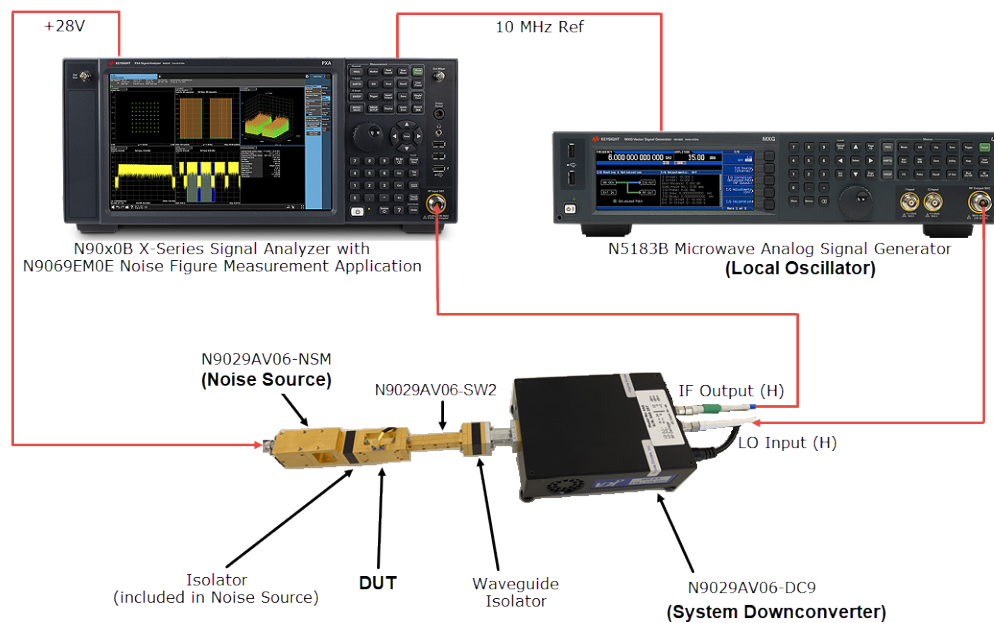
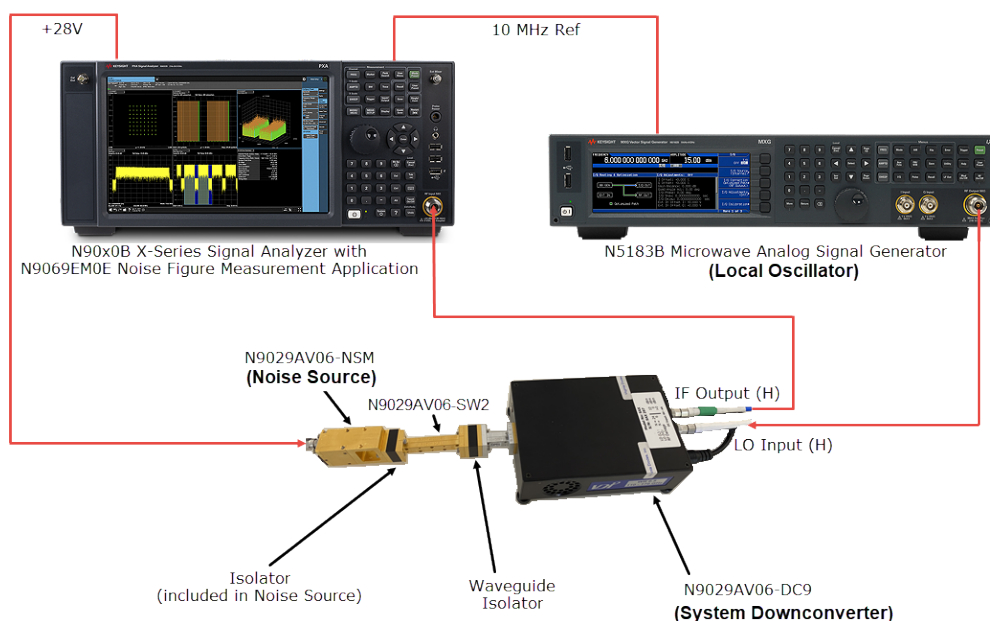
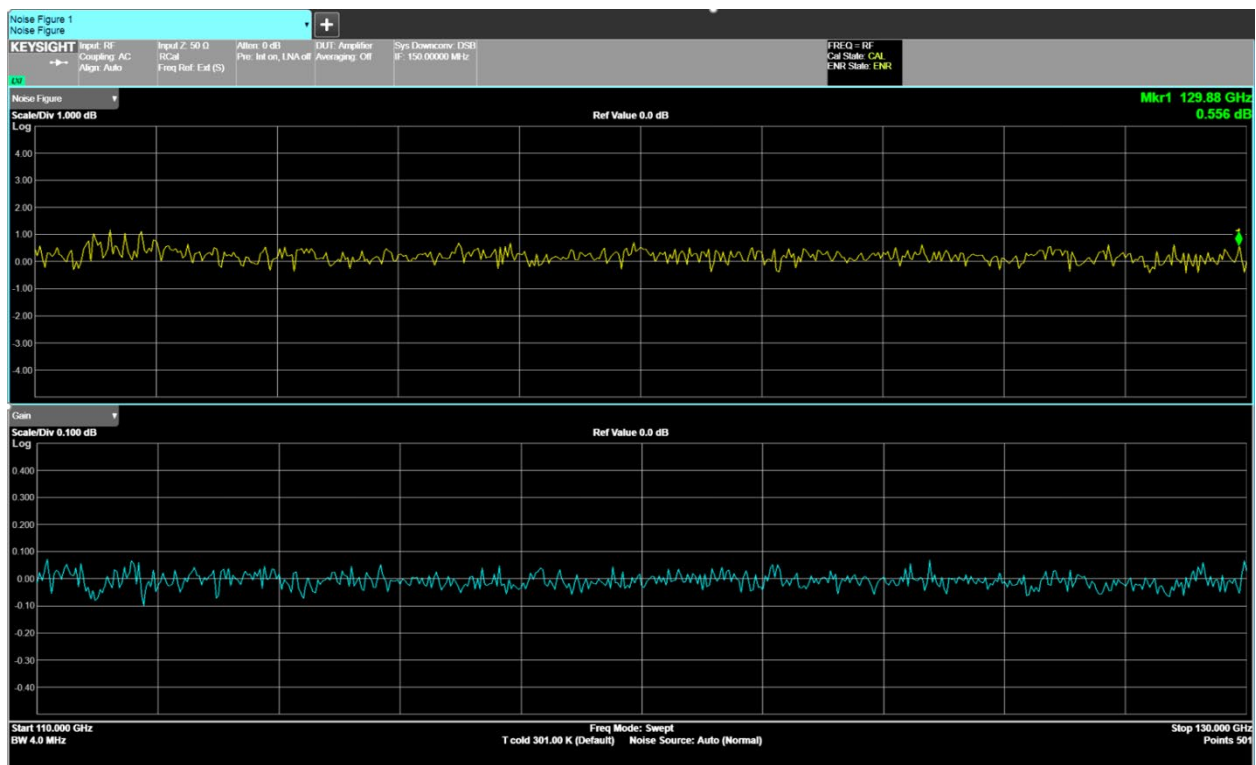
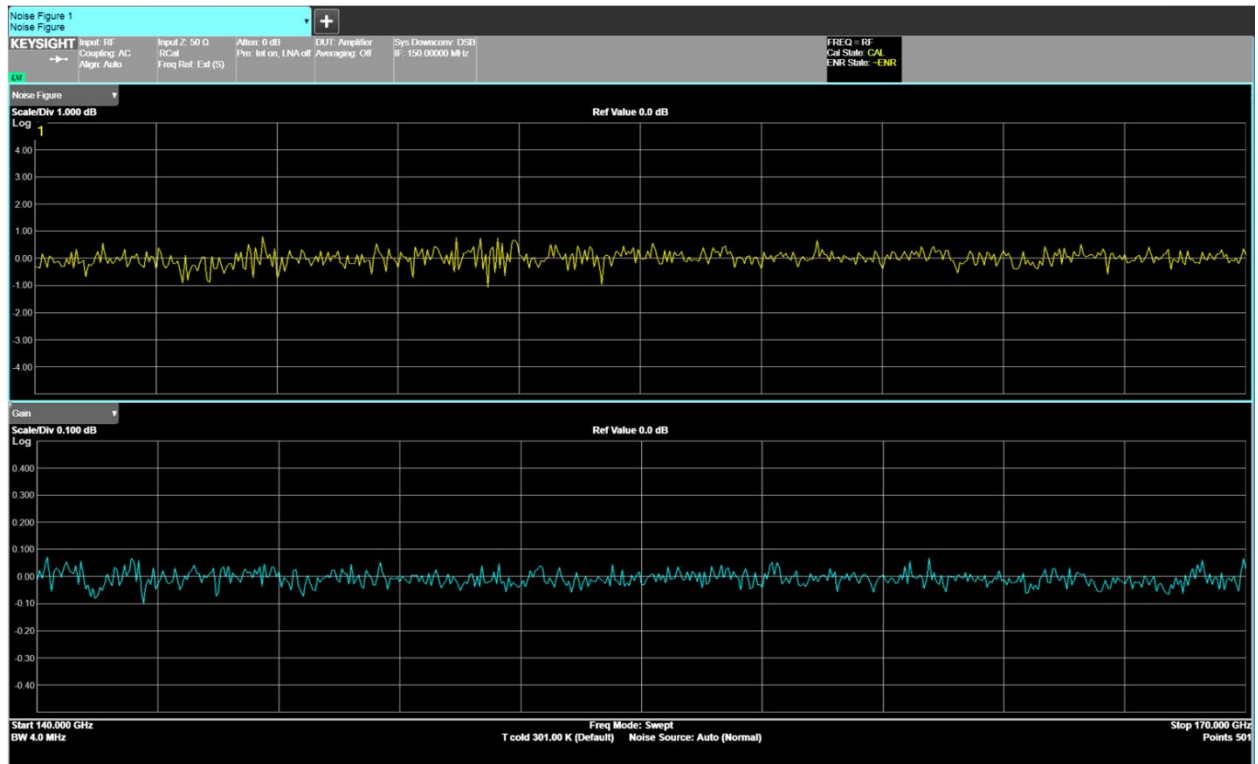

Figure 7a. Noise figure measurement setup
Figure 7b. Noise figure measurement calibration setup
Figure 13. Equivalent NF instrument calibration verification from 110 GHz to 130 GHz
Figure 15. Equivalent NF instrument calibration verification from 140 GHz to 170 GHz
A typical block diagram for D-band Noise Figure Measurement System is shown in Figure 7a, which includes:
- When doing Calibration, refer to Figure 7b to connect the noise source to the system downconverter.
- When doing Measurement, refer to Figure 7a to insert DUT between the noise source and system downconverter. Use the appropriate waveguide section as adapter and appropriate isolators to improve the match between DUT and the instrument
In the Noise Figure measurement system, N9029AV06-DC9 is acting as the system downconverter, which is present in both the calibration (Figure 7b) setup and the measurement setup (Figure 7a). This section focuses on the setup for the system downconverter. More details on how to use the system downconverter in N9069EM0E Noise Figure Measurement Application can be found in *Noise Figure Measurement Guide*.
Connect the noise source and the signal analyzer following the setup in Figure 7b. The noise source is connected directly to the input of the equivalent NF instrument.
Insert the DUT between the noise source and the signal analyzer following the measurement setup in Figure 7a and Restart the measurement. The measurement result appears on the analyzer's display.
Follow the calibration setup shown in Figure 7b and perform the calibration. After calibration, the expected noise figure and gain are both near 0 dB (Figure 13) since no DUT is connected yet. This is an easy way to verify if the NF measurement system is working properly.
Follow the calibration setup shown in Figure 7b and perform the calibration. Similar to Example 1, after calibration, the expected noise figure and gain are both near 0 dB (Figure 15) since no DUT is connected yet. This is an easy way to verify if the system is working properly.